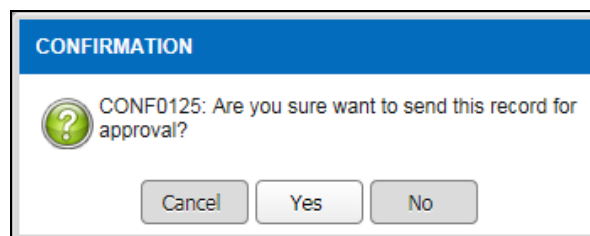

Figure 3.4.1-20 Confirmation Message
- Click on the  button and information message will be displayed as Figure 3.4.1-21